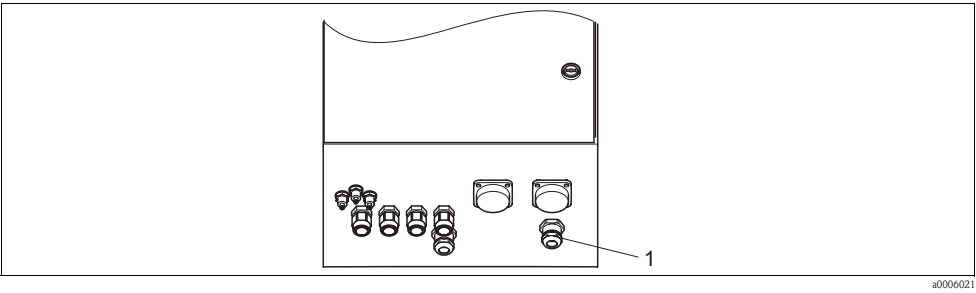

Fig. 22: Guiding the level probe cable
- 1. Guide the cables of the level probes for the buffer and cleaner through the threefold Pg gland behind the multihose connection (see Fig. 22).